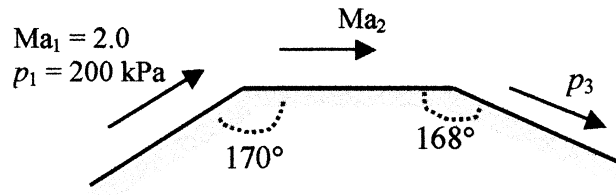

Fig. P9.146
**9.146** Air flows supersonically over a surface which changes direction twice, as in Fig. P9.146. Calculate (a)  $Ma_2$ ; and (b)  $p_3$ .